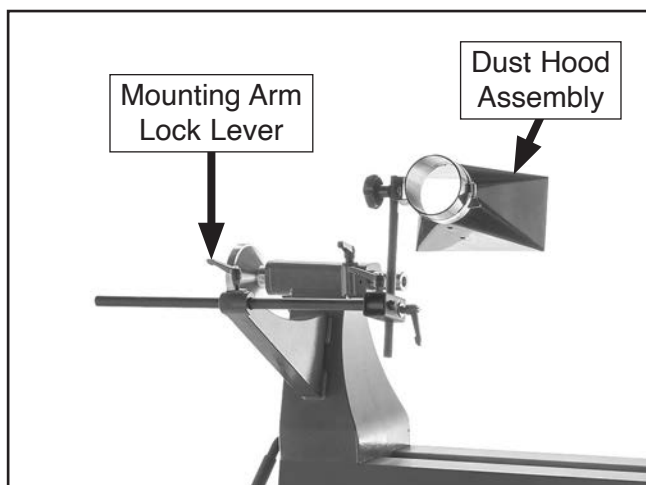

Figure 80. Dust hood mounting components.
8. Loosen mounting arm lock lever on tailstock mounting arm and remove dust hood assembly (see **Figure 80**).